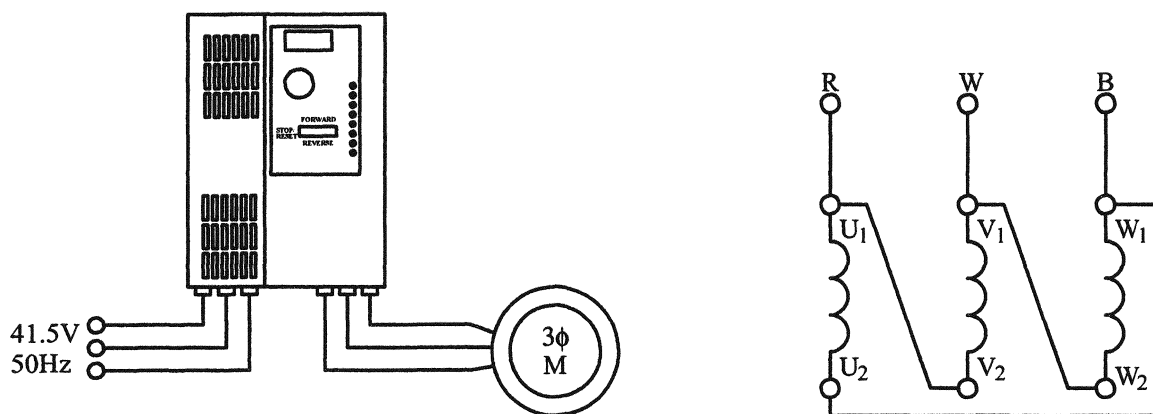

Figure 1
1. Connect the prime mover as shown in figure 1. This arrangement will be used throughout the practical assignment.